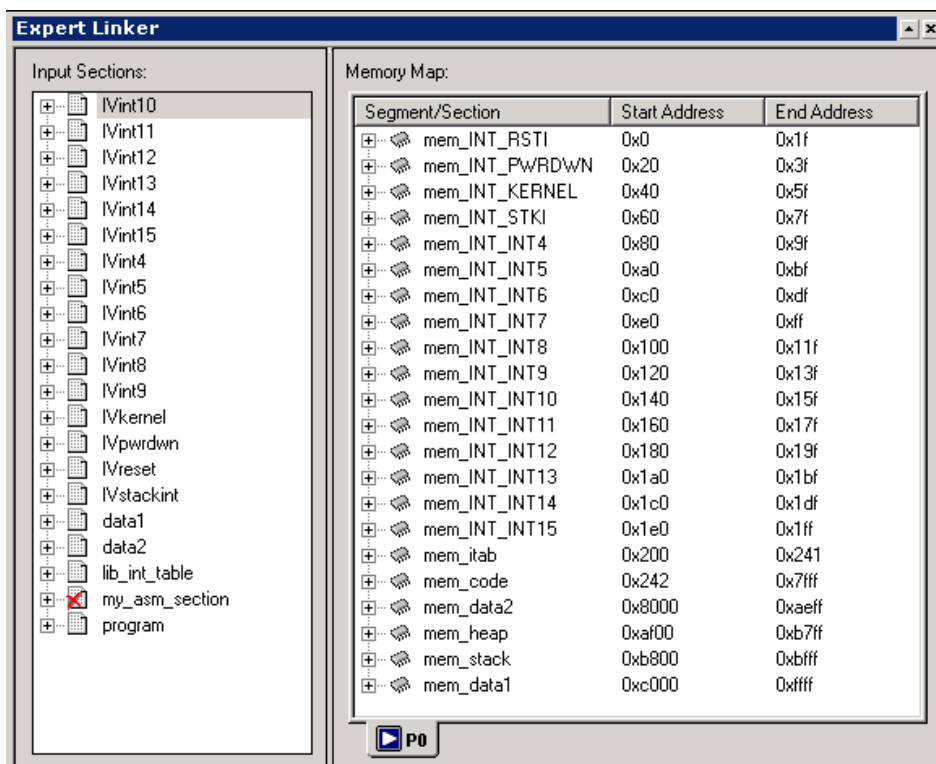

Figure 2-21. Expert Linker Window
4. In the **Project** window, double-click in the `dot_prod_asm.ldf` file. The **Expert Linker** window (Figure 2-21) opens with a representation of your file.
The right pane contains a graphical representation of the memory segments that the Expert Linker defined when it created the .LDF file. Change the view mode by right-clicking in the right pane and choosing **View Mode**. Then choose **Memory Map Tree** to display the tree view shown in Figure 2-21.